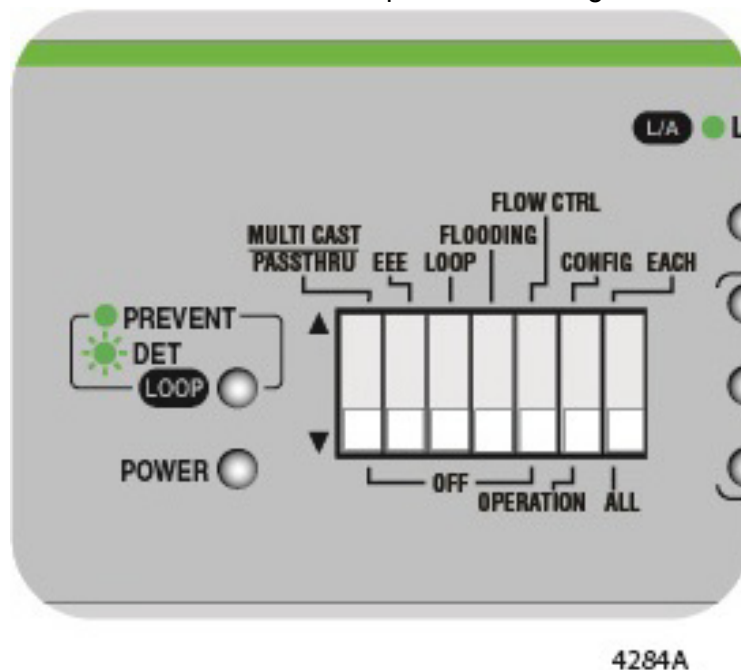

Figure 37. DIP Switch Settings for Disabling Flooding
- Set DIP switch # 4 to the DOWN position. See Figure 37.